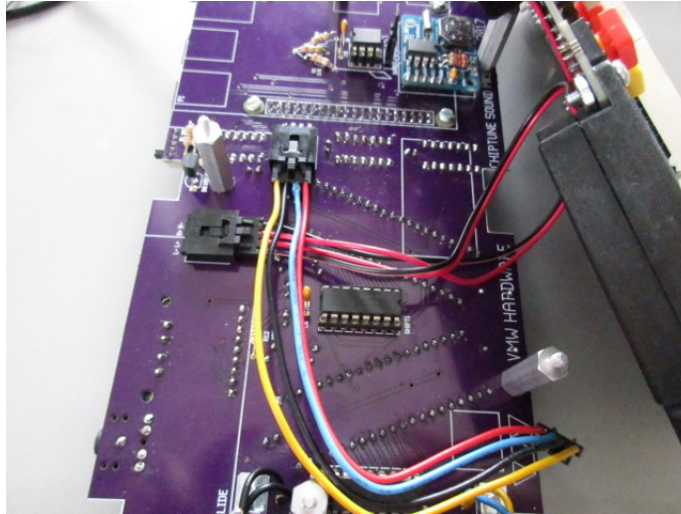

Figure 5: Assembled i2c and speaker wires
- (b) Order is Vdd, SDA, GND, SCL (note this is not marked on the display board). Figure 5 shows the assembled cables.